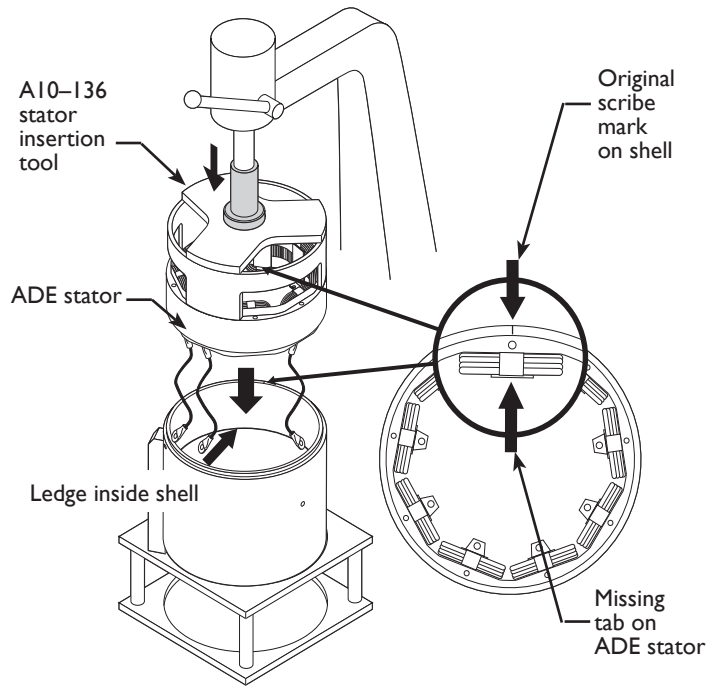

Figure F-1a ADE Stator Assembly
- a. Set new ADE stator (longer phase leads face down) on ADE edge of shell. Align scribe mark on shell where tab is missing on ADE stator. Arrange CEN A10-136 stator insertion tool on stator. See Figure F-1a.
- b. Press new ADE stator into position using a spray lubricant if necessary. Make sure the stator stops on the ledge inside the shell. See Figure F-1a.